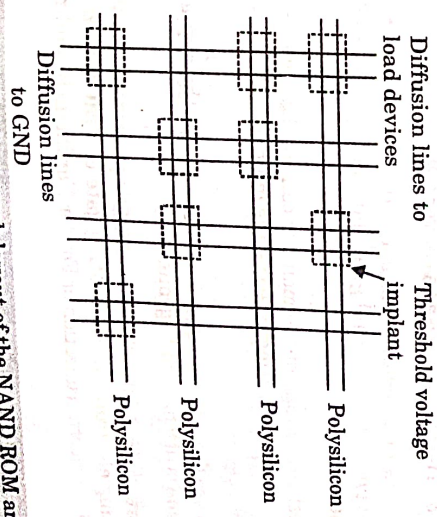

Fig. 4.6.2. Implant mask layout of the NAND ROM array.
- Fig. 4.6.2 shows a sample 4 bit x 4 bit layout of the implant mask NAND ROM array.